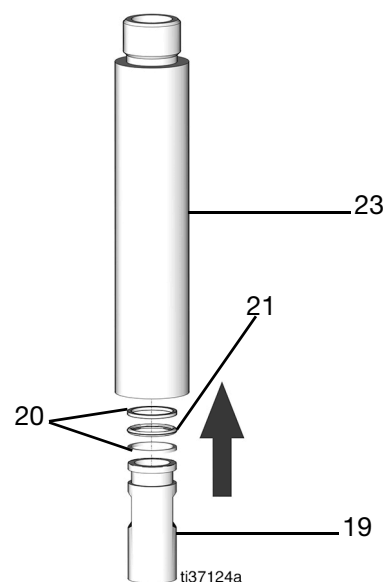

FIG. 59
- Replace the two back-up rings (20) and o-ring (21) with new back-up rings and o-ring and grease lightly (FIG. 59).
- Place the piston bushing (19) into the pump lower tube (23) until seated (FIG. 59).